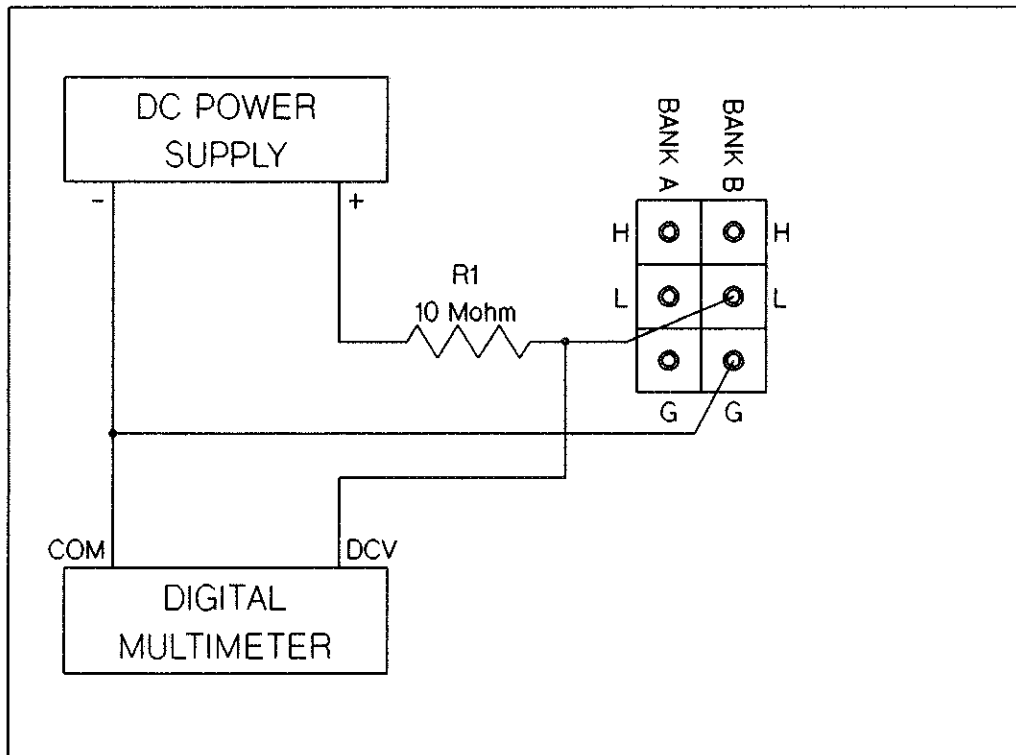

Figure 8-26 HP 44705A/H Bank B LOW to GUARD DC Isolation
59. Connect the test circuit between the Bank B common LOW test point and the Bank B common GUARD test point on the test fixture as shown in Figure 8-26.